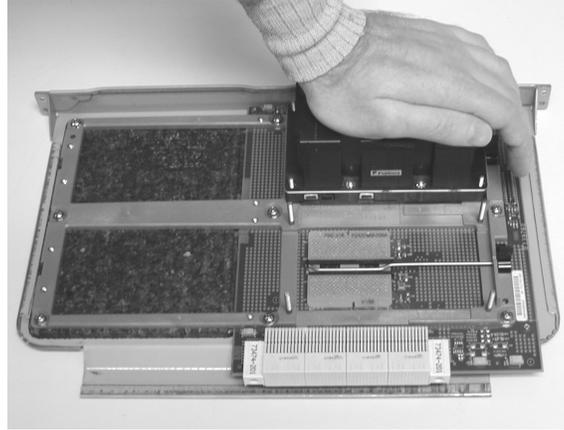

Figure 11. Properly Seating the Processor
6. Using the heel of the hand apply firm pressure to the heat sink to seat the processor into the LIF socket. Refer to Figure 11.